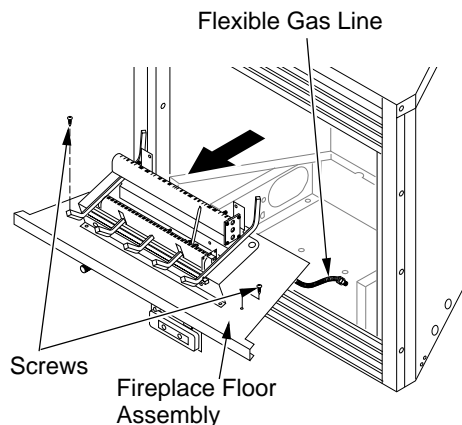

Figure 6 - Removing Fireplace Floor Assembly (VTGF33N/PR Shown)
3. Remove screws that attach fireplace floor assembly to fireplace. Open lower louver door. Carefully lift up fireplace floor assembly and remove from fireplace, taking care to pull flexible gas line through the access holes (see Figure 6, page 9).